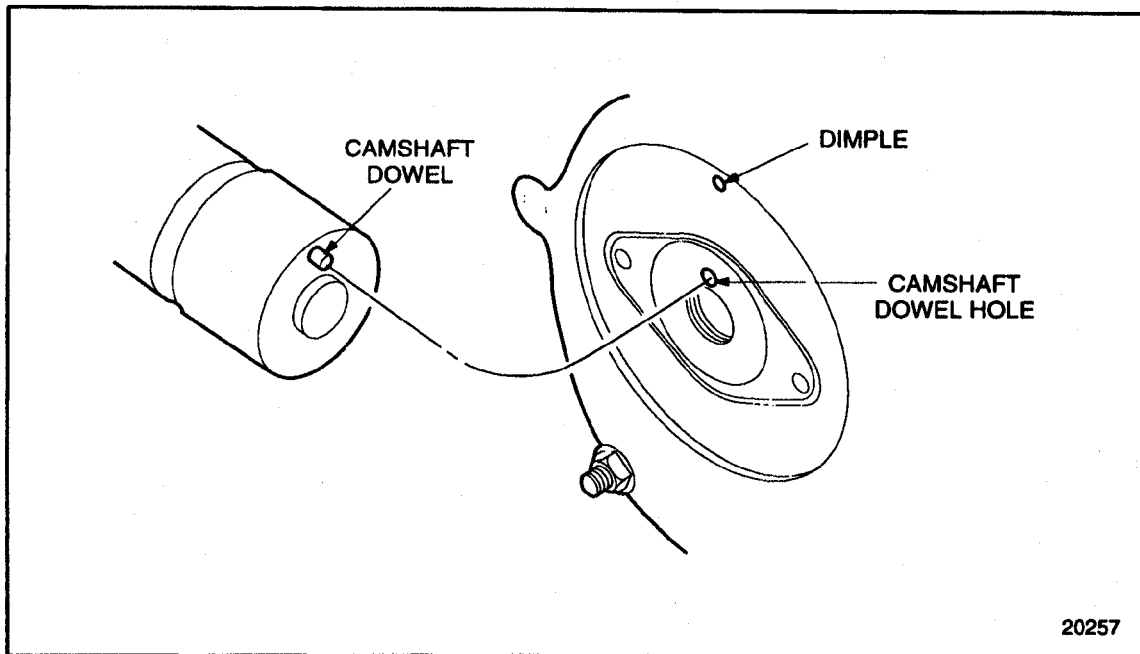

Figure 1-346 Indexing Camshaft Dowel
3. Before installing the camshaft dowel into the camshaft hub, ensure that the dimple in the thrust plate is located at the 12 o'clock position to properly position bolt holes to cam cap and cylinder head. See Figure 1-346.